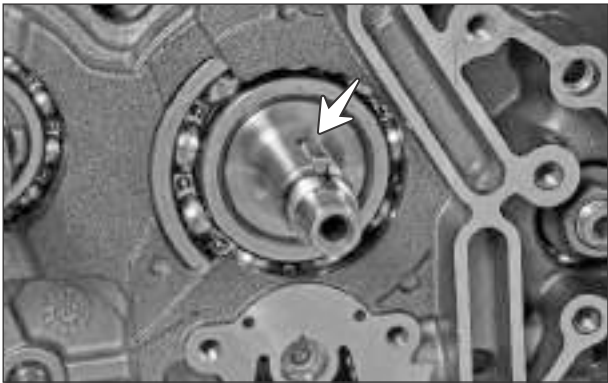

Fig. 3.128
Take out key (4x4x15) from the crankshaft assembly. (Fig. 3.128)